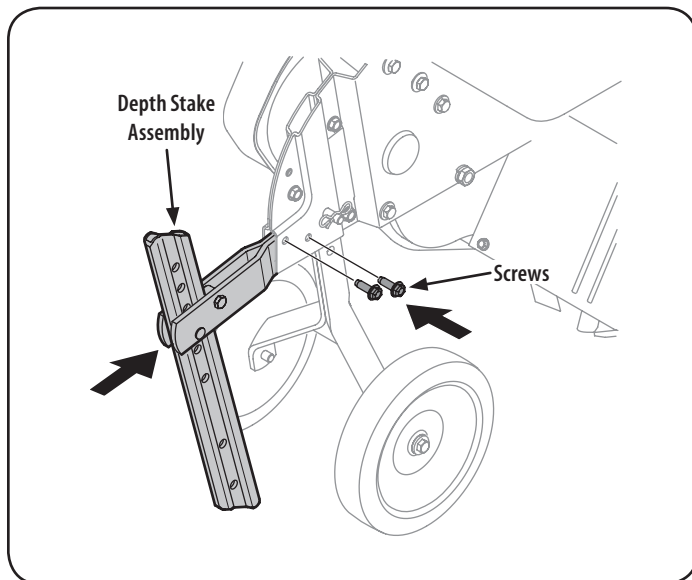

Figure 6
2. Insert the depth stake assembly into the frame and reinstall the two screws removed earlier. Tighten the hex bolts securely. See Figure 6.